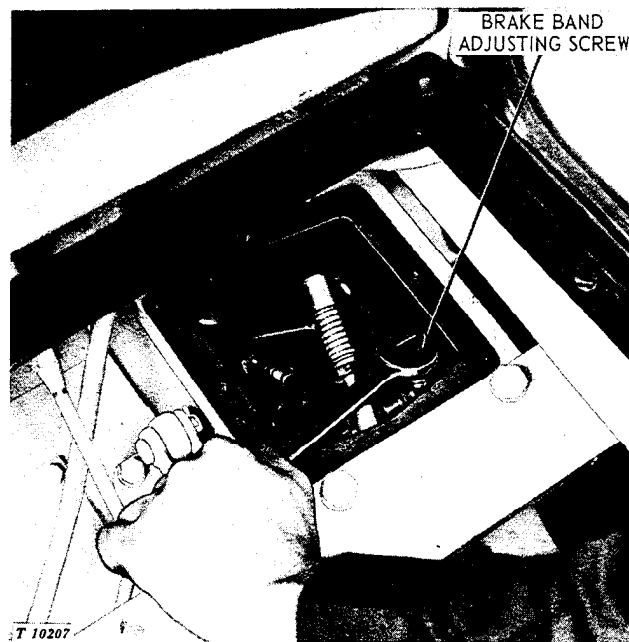

Fig. 20-15-2—Loosening Steering Clutch Brake Band
8. Remove steering clutch housing top cover and loosen brake adjusting screw to release tension from brake band (Fig. 20-15-2).